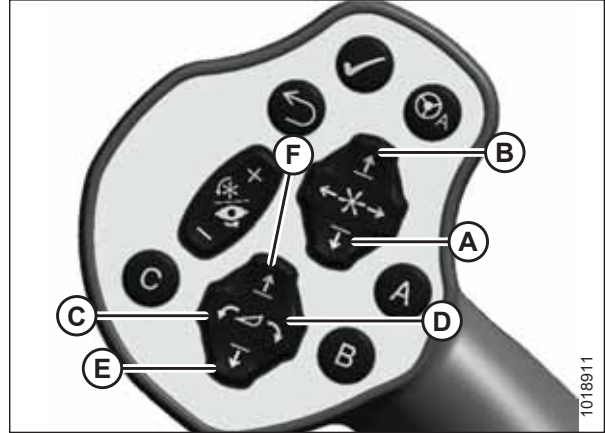

Figure 4.190: GSL
- Lower center-link (A) onto the header with REEL DOWN switch on GSL until it locks into position (hook release [C] is down). Refer to Figure 4.190, page 202 for GSL controls.
- Check that the center-link is locked onto header by pressing the REEL UP switch on the GSL. Refer to Figure 4.190, page 202 for GSL controls.